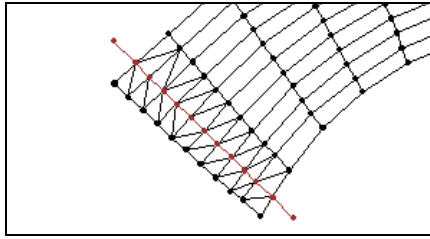

Figure 8-17 The breakline has been inserted.
3. Select *Nodestrings | Force Breaklines*. The elements will be split along the nodestring, as shown in Figure 8-17.